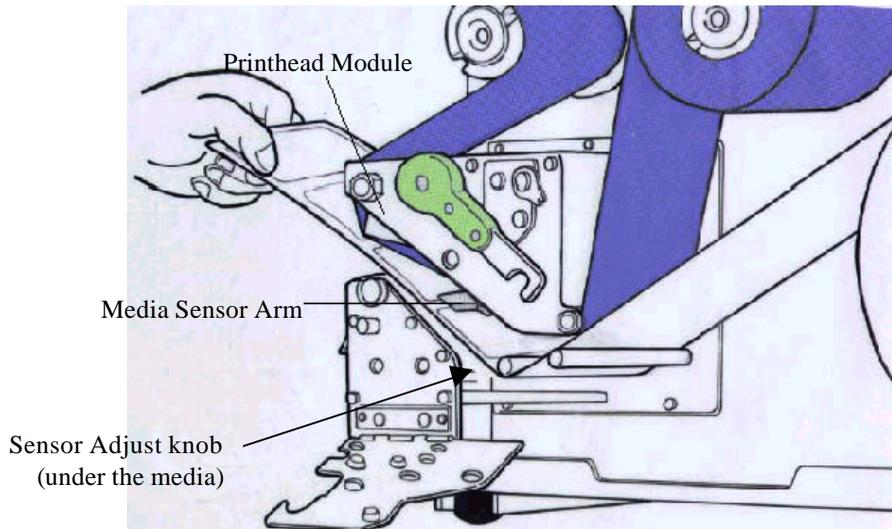

Figure 20 - Media Sensor Adjustment
- Thread the media over the **Back Media Rail** and under the **Front Media Rail** as shown in Figure 20.